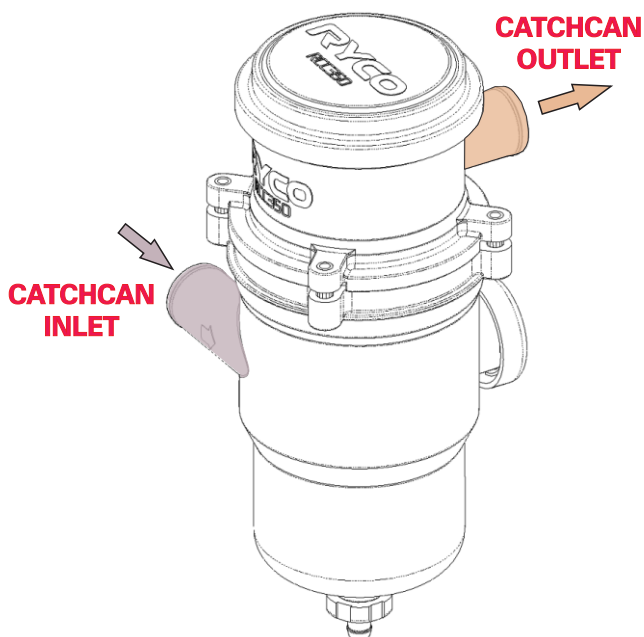

FIG. 7 PREPARING CATCHCAN BEFORE INSTALLATION
2. Before mounting the catchcan, loosen the four (4) retaining screws of RCC351, rotate the head 90 degrees to ensure the catchcan upper port (outlet) is facing the windscreen and the lower port (inlet) is facing towards the engine. See Fig. 7 below.